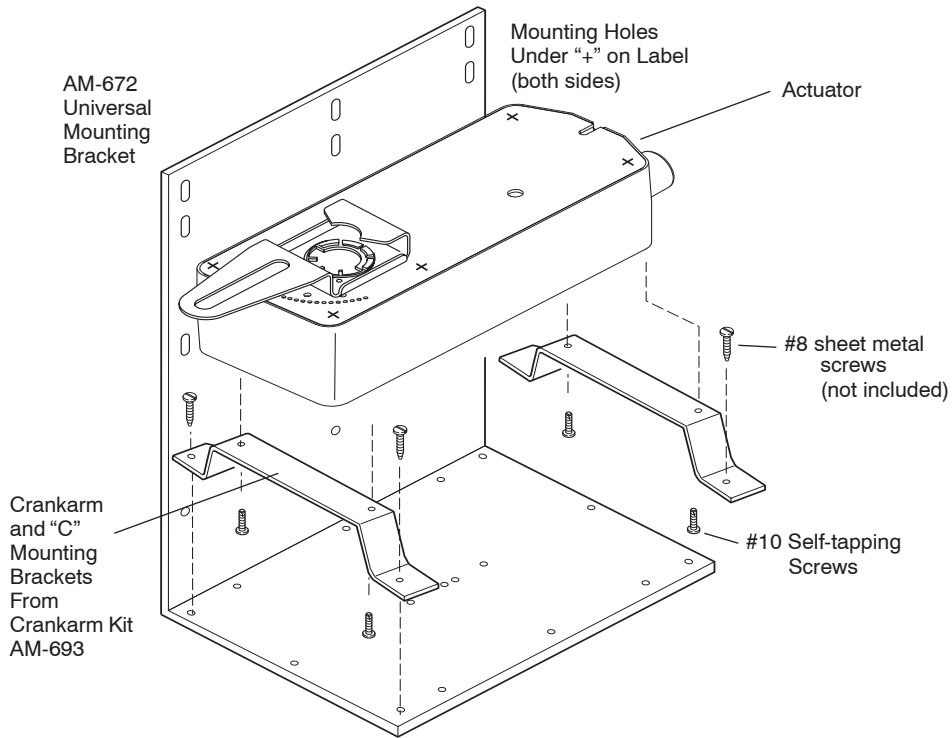
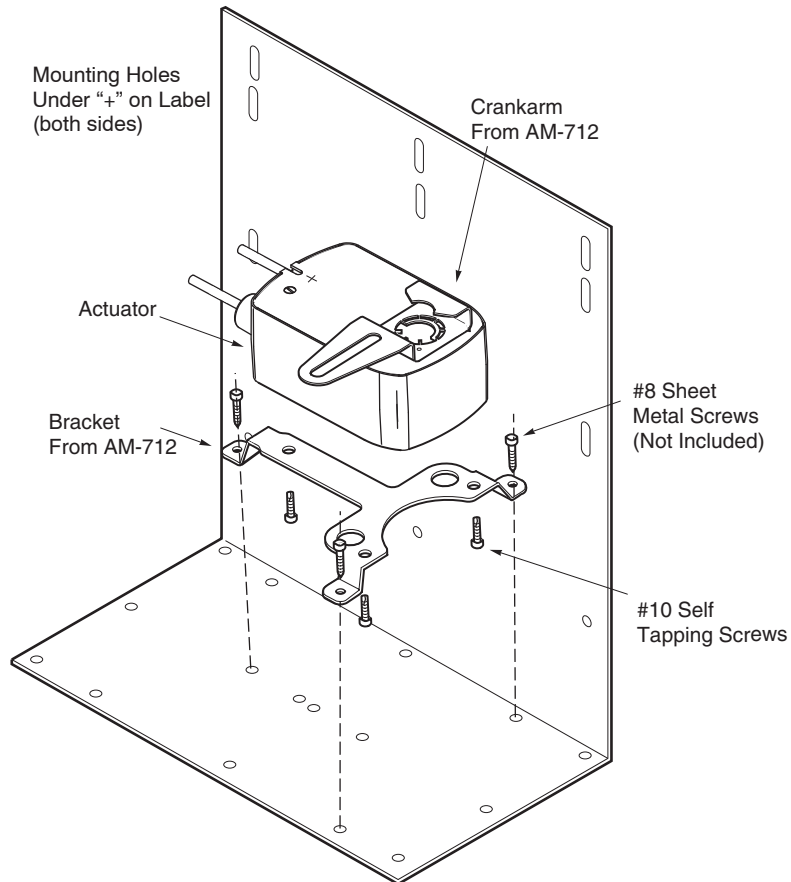

Figure-3 Installation of MX40-707X and MX40-715X Actuator to Universal Mounting Bracket AM-672.
Figure-4 Installation of MX40-704X Actuator to Universal Mounting Bracket AM-672.
2. Locate the pre-drilled mounting holes on the actuator label that are covered by a white "+" sign (See Figure-3 and Figure-4).
4. Use the #10 self-tapping screws to secure the brackets to the actuator (See Figure-3 and Figure-4).